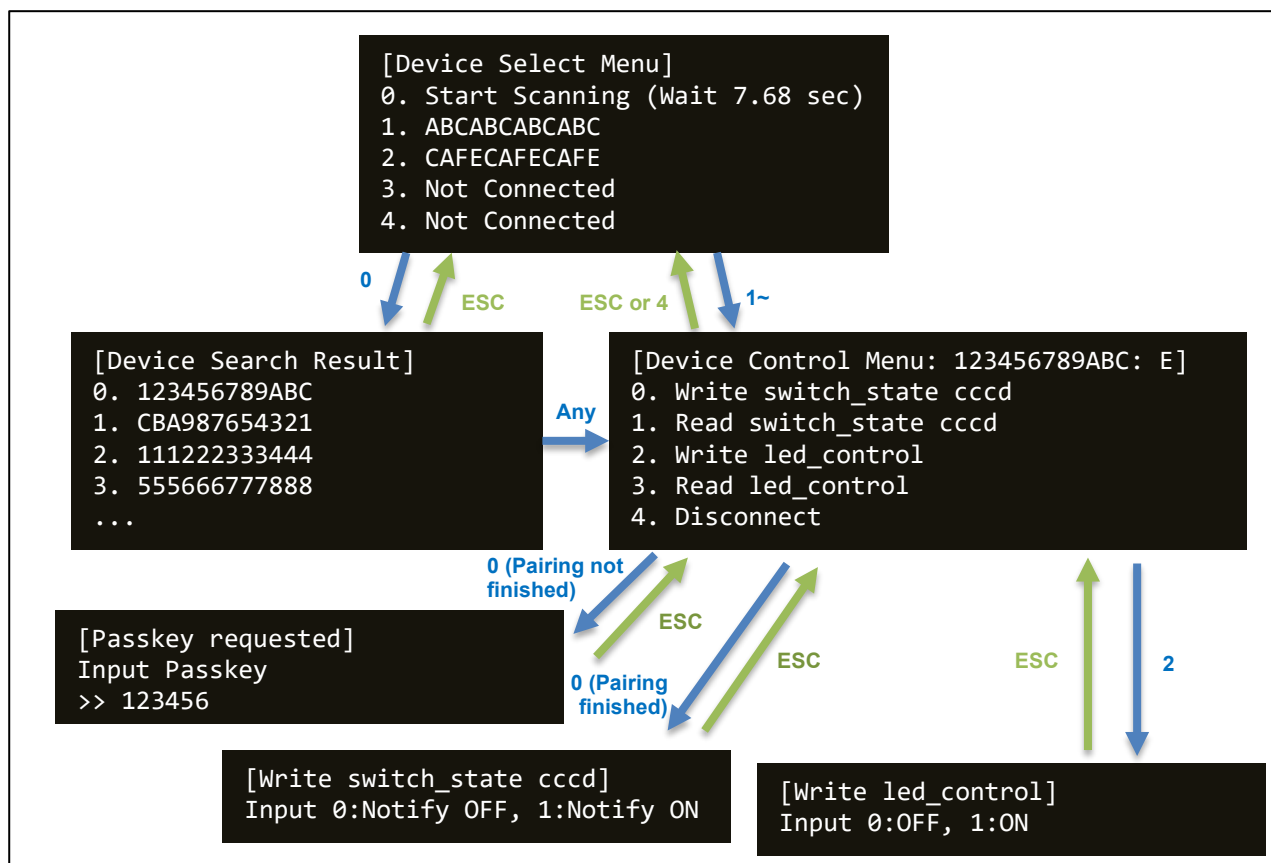

Figure 2-2 Terminal Menu Flow
2. On the Terminal Software, the terminal menu is displayed as shown in Figure 2-2. The figure also shows the terminal menu flow diagram. The menu items are selected by using number keys (0 to 9), and Esc key is used to exit current menu then move to the upper menu.
Note: The number of menu items in "Device Select Menu" except "Start Scanning (Wait 7.68 sec)" is the maximum number of concurrent connection between one Central and Peripherals. The example of Figure 2-2 shows that Central can establish four connections. Currently two connections have been established and two more connections can be established.